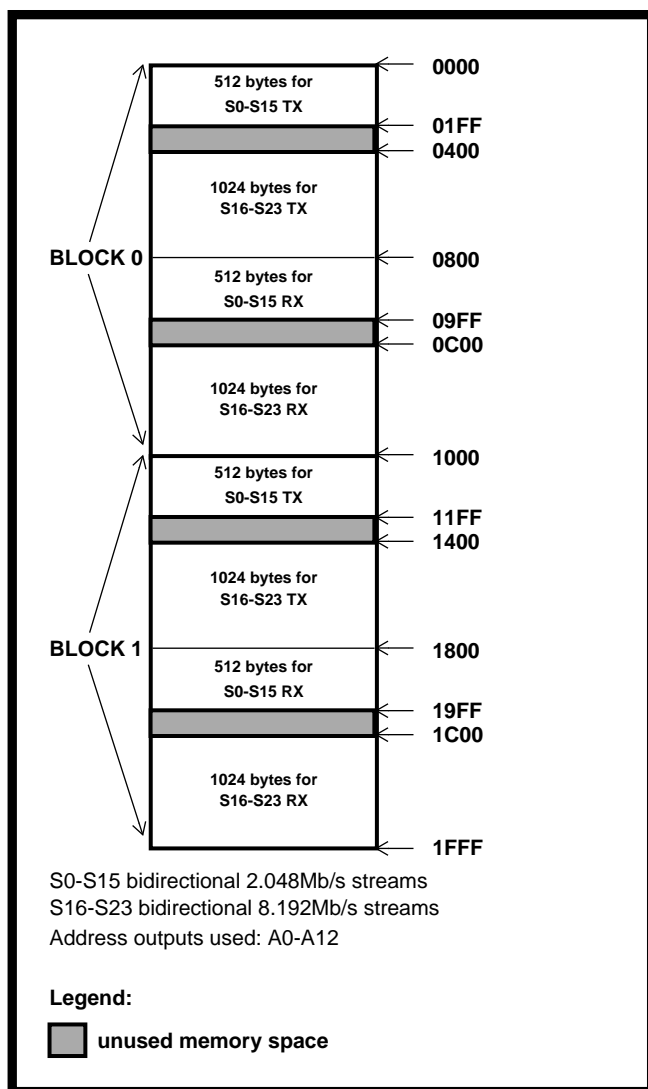

Figure 5- External Double Buffer Operation and Memory Arrangement in Modes 4 and 5.
**Mode 4:** The MT90210 is configured such that the 24 serial streams are bidirectional and split into two different functional groups: (i) streams S0-S15 operate at 2 Mb/s rate (512 timeslots), (ii) S16-S23 operate at 8.192 Mb/s rate (1024 timeslots). Memory mapping for mode 4 is described in Figure 5. For compatibility with legacy MVIP timing, mode 4 provides an additional clock input at 4.096 MHz (HC4 input pin) which allows the device to detect frame sync pulse ( $F0i$ ) with a typical width of 244 ns. In mode 4, the 16.384 (SCLK) and 4.096 (HC4) MHz clocks should be in sync according to H-MVIP specifications. The on-chip PLL doubles SCLK to produce a CKout signal of 32.768 MHz. Figure 13 and Table 4 show the write and read operations on the parallel port at the frame boundary.
**Mode 5:** Identical operation as per mode 4 with the difference that the 16.384 MHz clock is a differential signal received at the two input pins, C16+ and C16- of the MT90210 device. The differential clock is needed to eliminate distortion in the clock signal passing through a ribbon cable as per H-MVIP specification. The SCLK input is not used in this mode. Memory mapping for mode 5 is depicted in Figure 5.